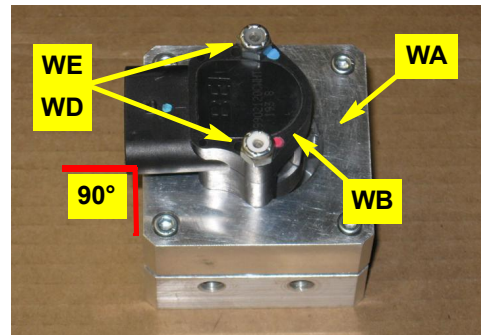

Figure 1a: Prepared WAS housing/connector
- Using the provided hardware **WE** (nuts) and **WD** (bolts - not visible), attach the WAS wire connector **WB** to the WAS housing **WA**. Install the bolts up through the bottom of the housing. The WAS wire connector **WB** can be mounted 90° to any of the WAS housing **WA** sides (Figure 1a).